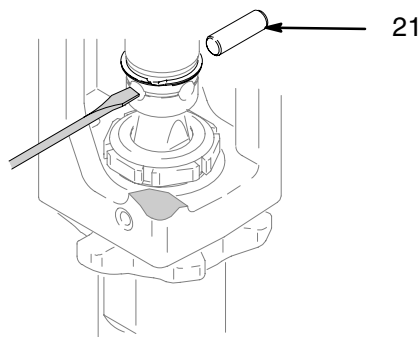

Fig. 9
4. Fig. 9. Push retaining spring up; push out pin (21).
2. Fig. 9. Push pin (21) into hole. Push retaining spring into groove.